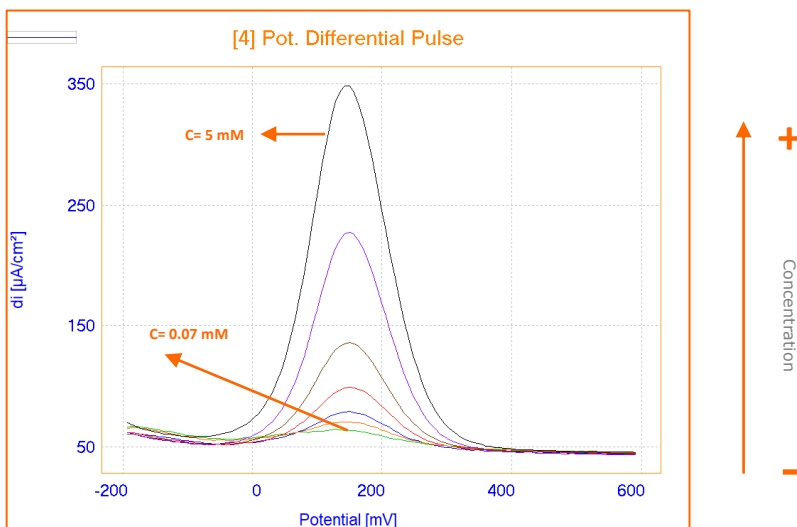

Figure 8: Overlay of 7 Differential Pulse Voltammograms
**CONCLUSION:** Most applications of pulse methods are for quantitative approaches in low concentrations. In figure 8, it can be seen by increase in concentration; the current is increased as well.